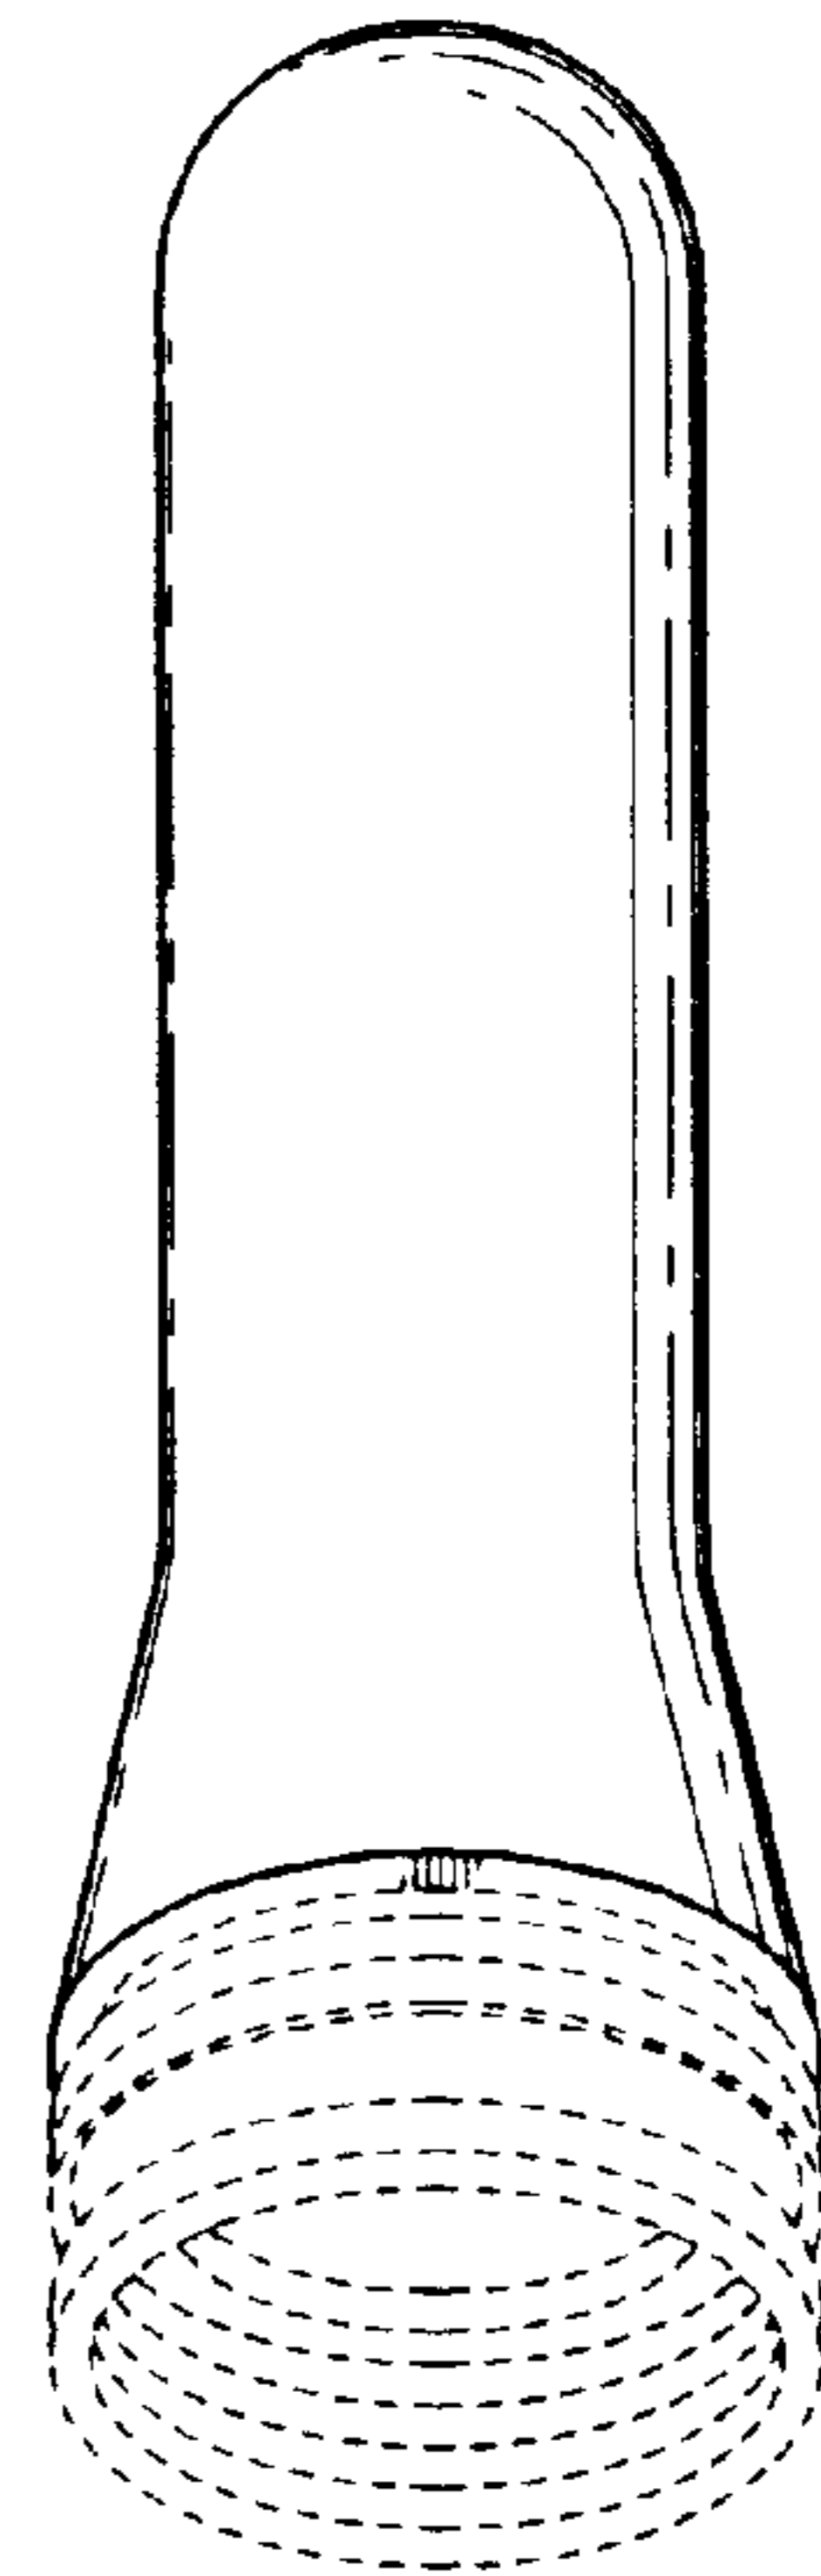

FIG. 7
- FIG. 7 is a rear elevational view thereof;